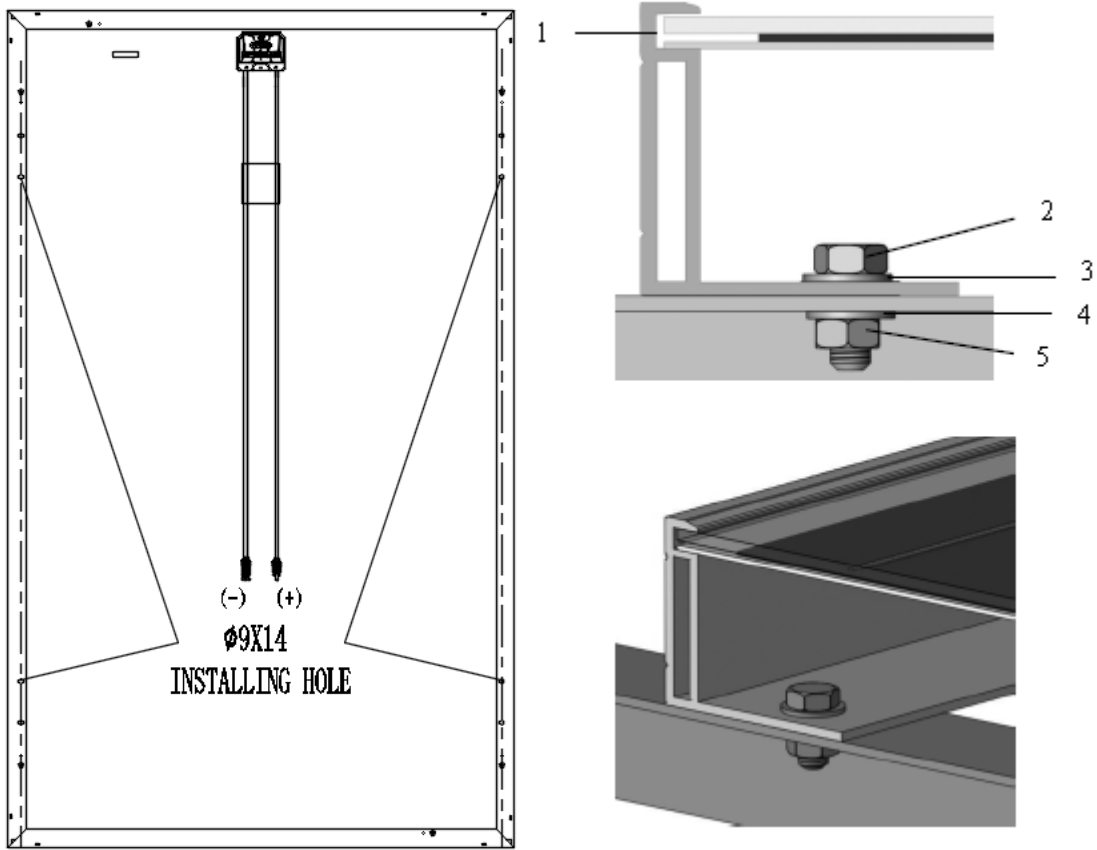

Figure 4. SPV module installed with Bolt fitting method
- Secure the module in each fixing location with an M8 bolt and a flat washer, spring washer and nut as shown in Figure 4 and tighten to a torque of 16-20 N·m.